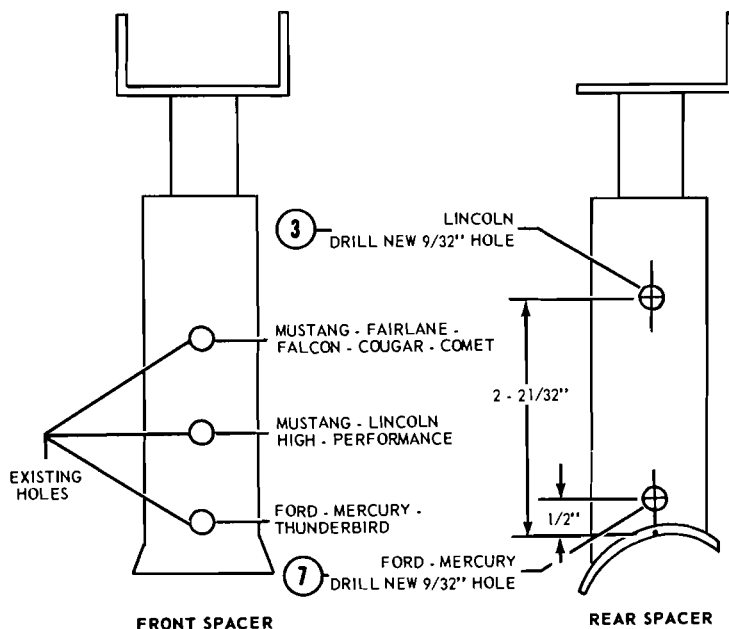

FIG. 2—Alignment Spacers Modification
1. Mustang H.P., insert pin in second hole 1 13/16 inches from base (Fig. 2).